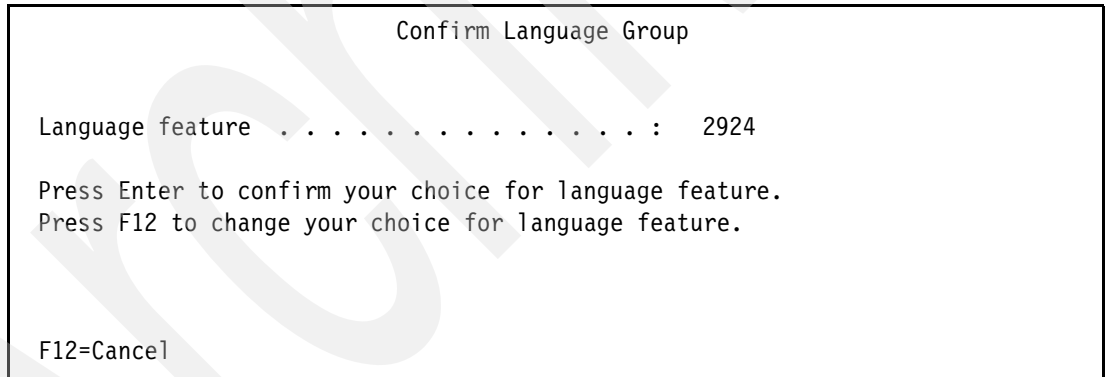

Figure 5-12 Confirming the language feature
5. On the Confirm Language Group panel (Figure 5-12), press Enter to confirm the language code.